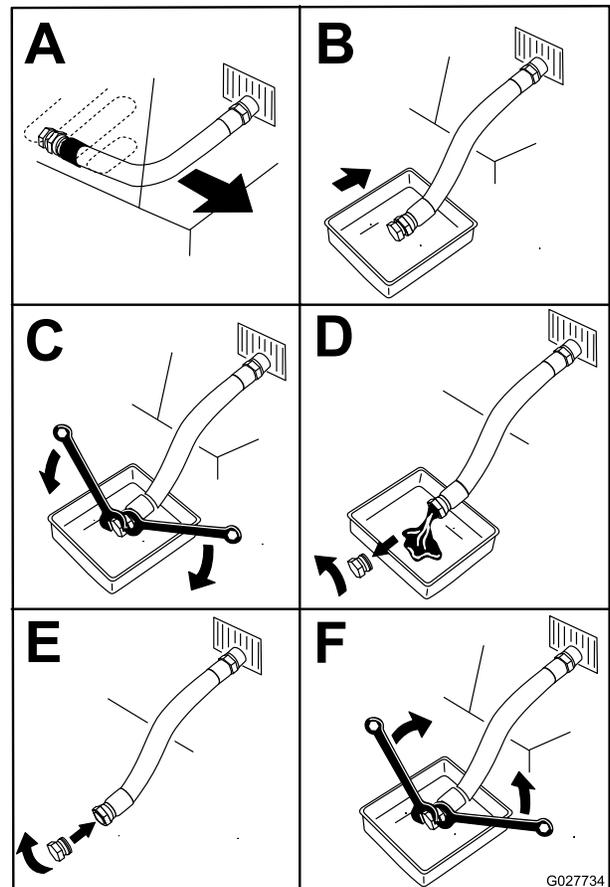

Figure 46
- Drain the oil from the engine (Figure 46).